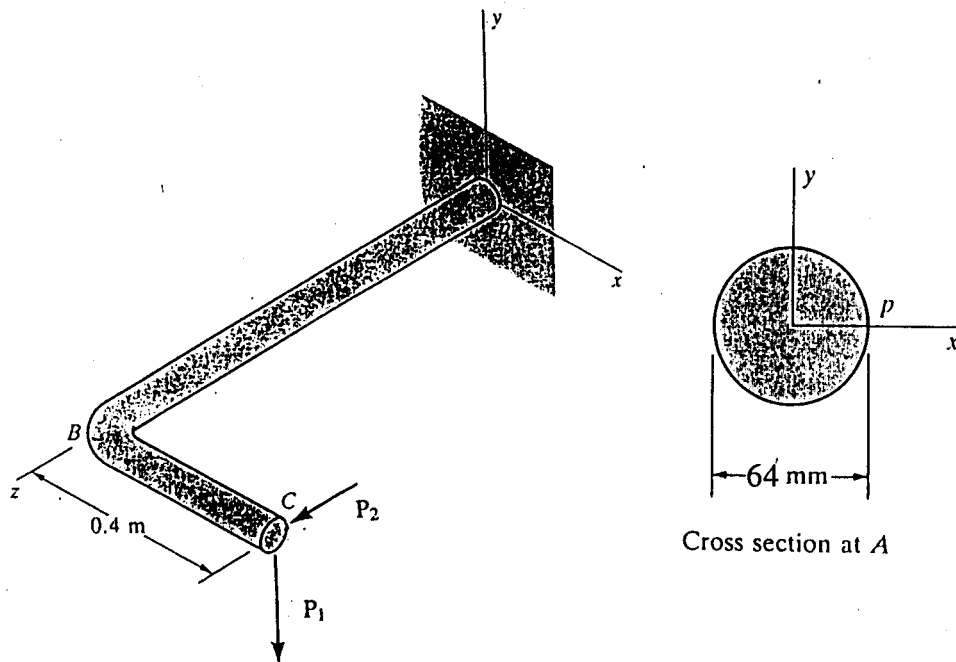

Figure 2
2. A horizontal bracket ABC (see figure 2) consists of two perpendicular arms AB and BC, the latter having a length of 0.4 m. Arm AB has a solid circular cross section with diameter equal to 64 mm. At point C a load $P_1=4$ kN acts vertically and a load $P_2=6$ kN acts horizontally parallel to arm AB. Considering only the forces P_1 and P_2 , calculate the maximum tensile stress σ_t , the maximum compressive stress σ_c , and the maximum in-plane shear stress τ_{max} at point p, which is located support A on the side of the bracket at midheight.